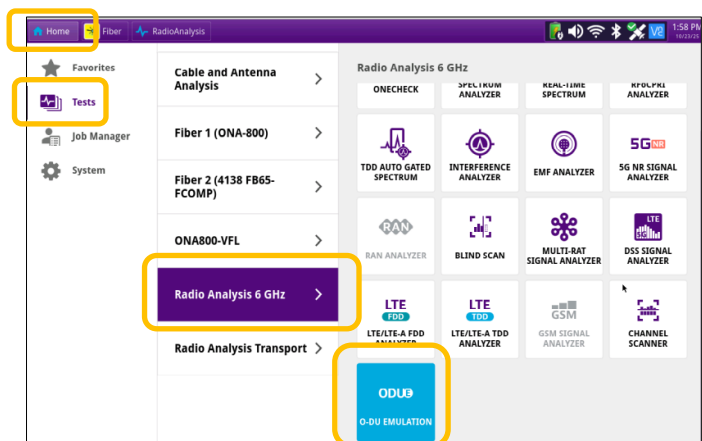

Figure 2: ODU-Emulation Launch screen
- Press the  Home then  Tests then **ODU Emulation** to access the required test category. (Figure 2)